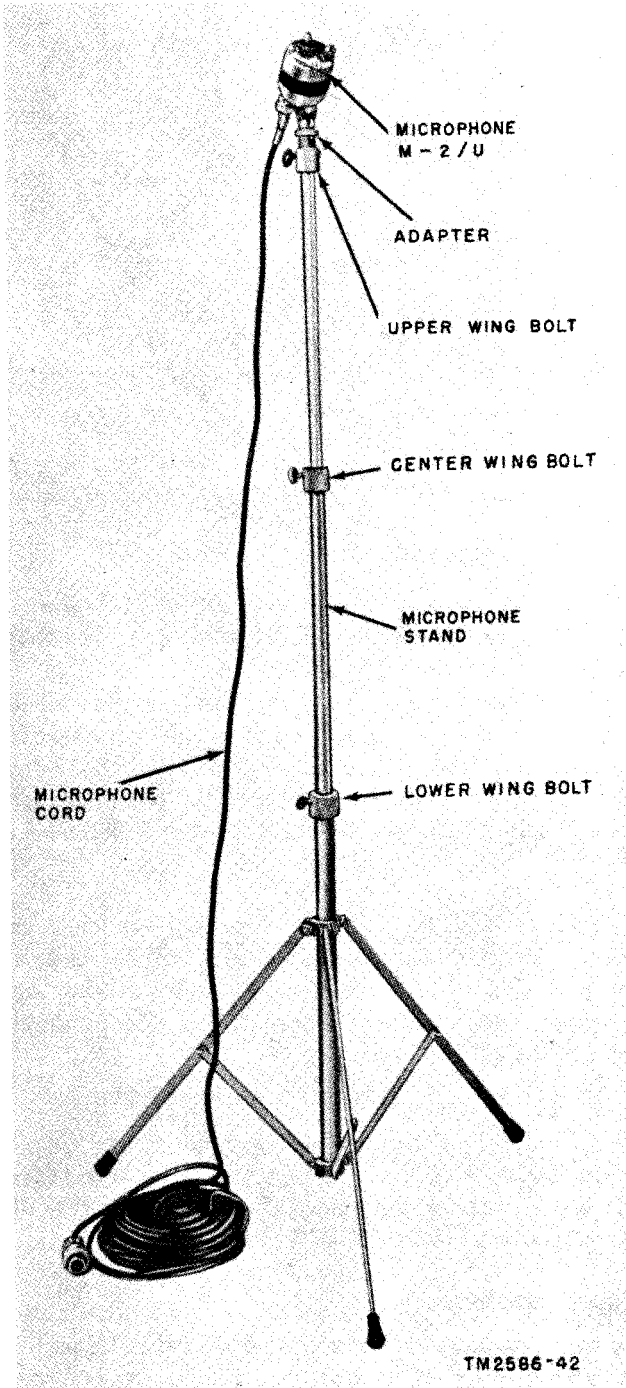
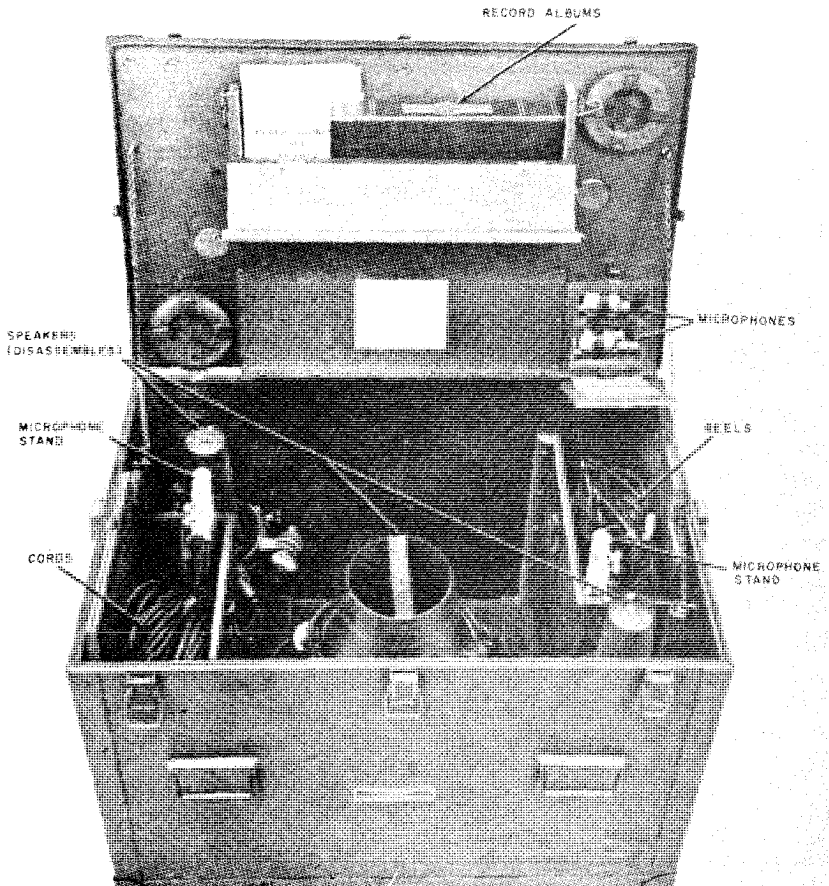

Figure 10. Microphone M-2/U mounted on stand
Figure 11. Speaker case, Case CY-37A/TIQ-2 and contents.
*c. Loudspeaker LS-103( \* )/TIQ-2.* The speakers (fig. 6) are enclosed in the speaker case (fig. 11). Each speaker consists of a speaker
d. *Cords.* The 11 rubber-covered cords are stored in the speaker case (fig. 11). There are five power cords, two microphone cords, and two microphone extension cords, one turntable pickup cord, and one headset extension cord. Each cord has a bend which is stamped with a number as shown in figures 7, 8, and 9. Power extension cord (W203) is terminated at one end in a four-receptacle junction box.
*f. Microphone M-2/U.* Two microphones are stored in the speaker case (fig. 11). They are aluminum-finished and may be painted olive drab. Each microphone can be mounted on a stand (fig. 10) and has a receptacle for the microphone cord.
k. Case CY-37(\*)/TIQ-2. The speaker case (fig. 11) contains the speakers, microphones, microphone stands, record albums, and the interconnecting cables. It may also contain the spare parts.
(1) Turntable MX-39A/TIQ-2, procured on some orders, is equipped with a spring-clip device, which serves as a rest for the pickup arm. Turntables procured on other orders are equipped with a slotted clamp and a clamping screw that secures the pickup arm.
(2) A MOTOR switch is provided on some turntables.
*c. Speaker Case.* The speaker case may be either Case CY-37/TIQ-2 or Case CY-37A./TIQ-2. The microphone stands are carried in a compartment on the underside of the lid of Case CY-37/TIQ-2 and in compartments in Case CY37A/TIQ-2 (fig. 11).
- (1) Unlatch the four catch-fasteners that hold the cover and remove the cover.
- (2) Remove all padding. Operate the switches and check the fuses as described in a (2) and (3) above.
- (3) Spin the platen by hand. Be sure that it turns freely.
- (4) Unlatch the pick-up arm. Check to see that the arm moves freely from side to side without binding. Replace the pickup arm.
- (5) Replace the cover and fasten the four catch-fasteners.
c. To check the components in the speaker case (fig. 11), proceed as follows :
- (1) Unlatch the five catch-fasteners that hold the cover. Fold back the cover on its hinges. Remove all cushioning material.
- (2) Check to see that there are two microphone stands.
- (3) Check to see that all cords are in their compartments.
- (4) Check to see that there are two microphones.
- (5) Check to see that there are two speaker horns and two mounting units.
- (6) Check to see that there are two technical manuals.
- (7) If a spare parts case is not provided, check to see that the spare parts are located in the speaker case.
- (8) Replace the cover and fasten the five catch-fasteners.